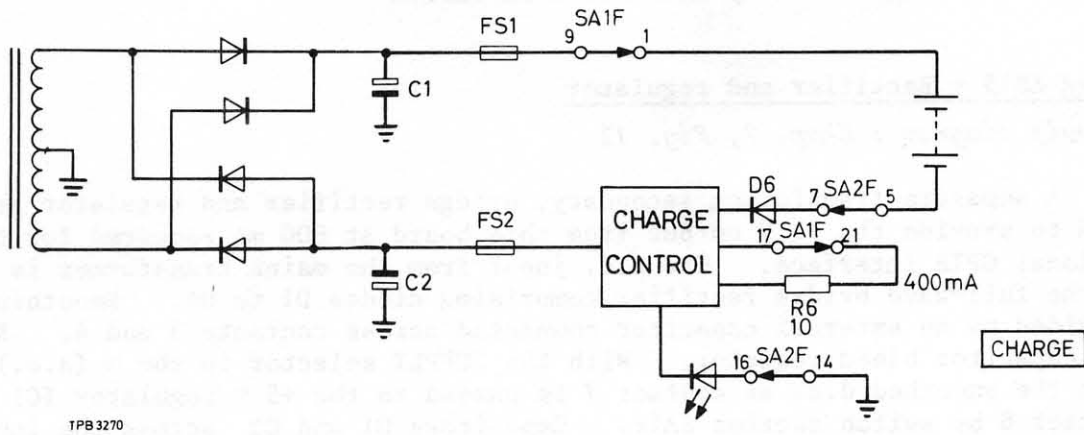

Fig. 20 Charge operation with SUPPLY selector set to CHARGE
65. When the SUPPLY selector is set to CHARGE, the CHARGE lamp lights and the output from the secondary normally supplying instrument power is fed to the battery via the charge control circuit on board AB11 (see Fig. 20). Maximum charge is 400 mA.